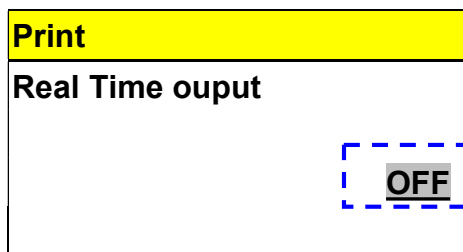

Figure 137
C. Press  or  button to enable or disable the real time printout, and press  button to store the parameter in Figure 137.